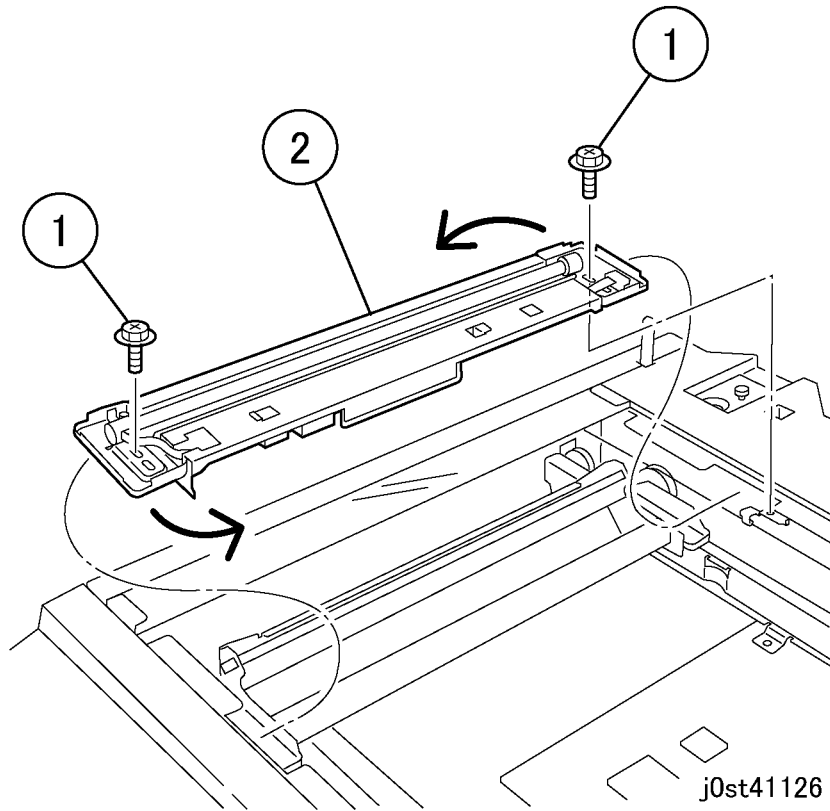

Figure 3 Removing the Full Rate Carriage (j0st41126)
5. Remove the Full Rate Carriage. (Figure 3)